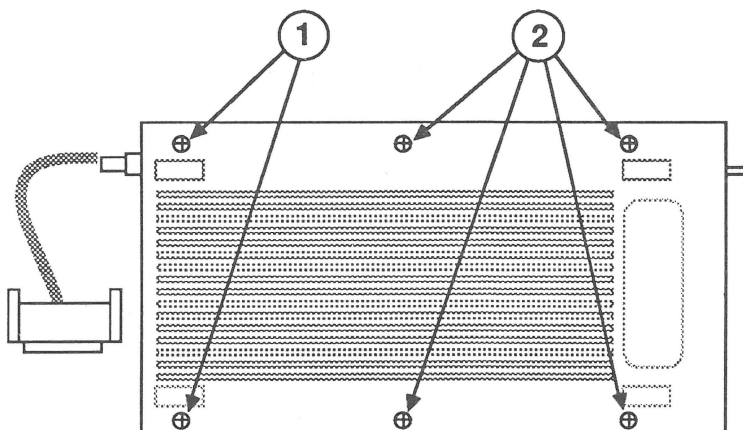

FIGURE 2
3. Remove the six Phillips screws (Figure 2, #1 and #2).
4. Replace the two longer 5/8-inch Phillips screws (Figure 2, #1) and the four 5/16-inch Phillips screws (Figure 2, #2) in the case bottom.